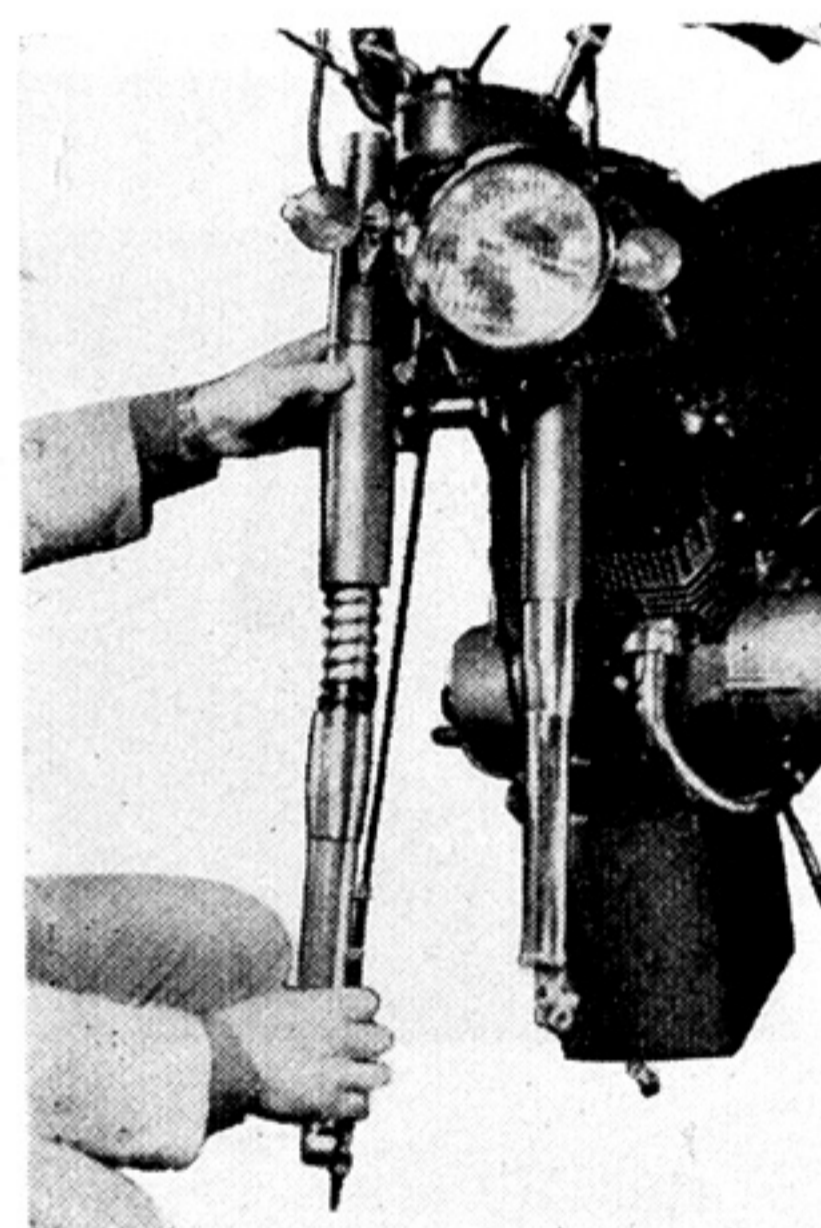

Fig. 4-5-2
- c. Draw out the outer tube downward. (Fig. 4-5-2)